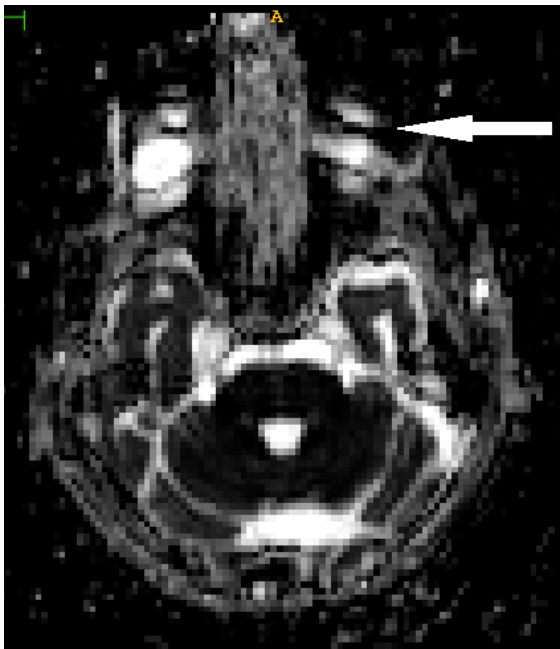

Figure 4.5
- Possible motion artifacts such as the one displayed in Figure 4.5 are often apparent in inferior axial slices up through the eye area. Like all visually detected artifacts, these are noted in the Visual QC notes on the wiki.